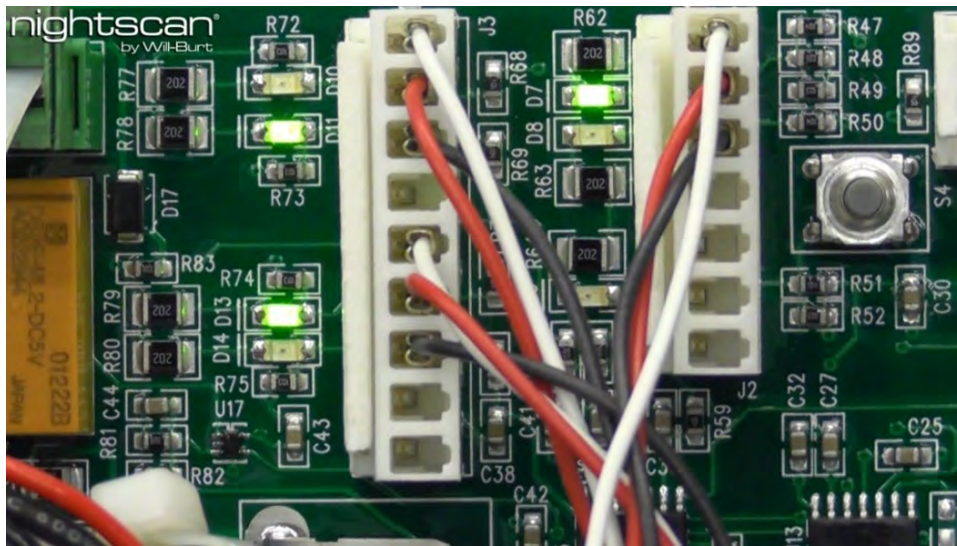

Figure 7-2 Diagnostic LEDs (stowed position example)
The PC Board mounted at the mast Base has LED indicator lights useful for diagnostics for circuits. Table 7-2 charts the colors of the relevant diagnostic LEDs for the various mast positions. An example of the diagnostic LEDs showing the mast in the stowed position is shown in Figure 7-2. These diagnostic LEDs can be used to help determine if an adjustment is necessary, for example if D7 / D8 shows Yellow when the mast is supposed to be stowed. They are also useful in assisting to determine when the switches have been properly adjusted.
6. Adjust the 90° Switch until it senses the actuator. This will be indicated by the diagnostic LEDs on the Base Board (Figure 7-2).
6. Check that the mast is properly stowed. This will be indicated by the diagnostic LEDs on the Base Board. As the mast comes down D11 and D13 will be green, and D7 will be yellow. Once stowed, D7 will also turn green (see Figure 7-2).
3. Remove the left base cover to expose the base PC Board diagnostic LEDs (see Figure 7-2).